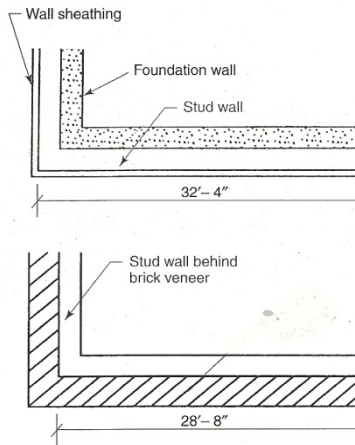

Figure VIII.3 Dimensioning of Exterior Wall
**VIII.3. Dimensioning floor frames** – Normally, dimensions for exterior walls are given to the outside of the stud wall for frame and brick veneer buildings. See Figure VIII.3